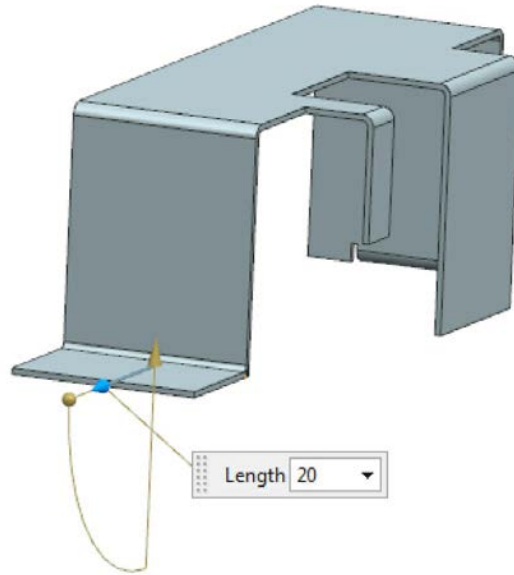

Figure 14-114 Preview of the sixth flange
12. Finally, create the sixth flange of 20 mm length on the bottom edge of the previous flange, refer to Figure 14-114 and then exit the **Flange** dialog